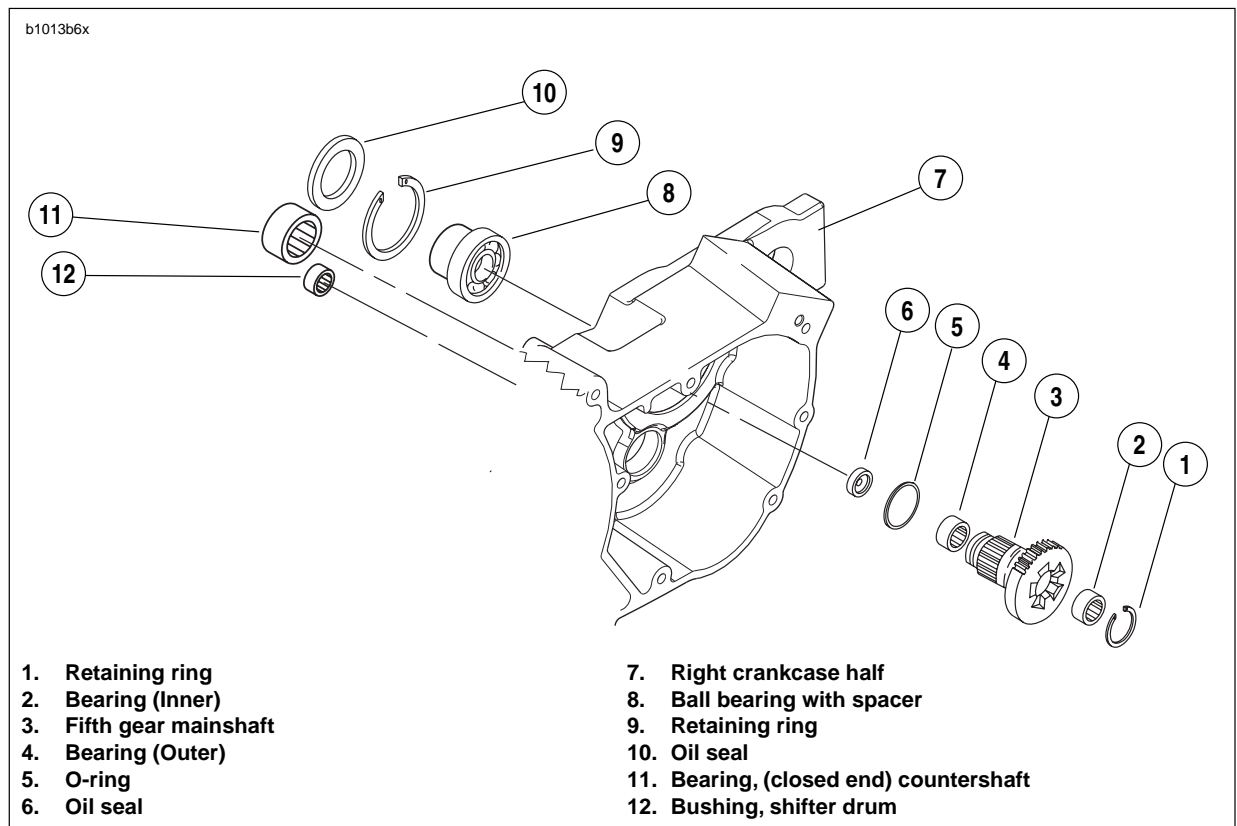

Figure 6-84. Transmission Assembly-Right Crankcase Half
2. See Figure 6-84. Install **new** o-ring (4) into groove in main drive gear (2). Lubricate o-ring with GENUINE HARLEY-DAVIDSON FORMULA+ TRANSMISSION AND PRIMARY CHAINCASE LUBRICANT.
See Figure 6-84. Make sure to install **new** o-ring (6) onto main drive gear before installing main drive gear into crankcase.
4. At outside of case, place INSTALLER CUP (Part No. HD-35316-12) (4), NICE BEARING (5), FLAT WASHER (6) and NUT (7) over end of bolt. Tighten nut until main drive gear bottoms against main drive gear bearing.
6. See Figure 6-84. Tap in **new** oil seal (6) at threaded end of main drive gear to a depth of 0.060-0.030 in. (1.524-0.762 mm).
1. See Figure 6-84. From inside transmission case use a suitable BEARING DRIVER/PULLER to remove countershaft bearing (11) from crankcase bore.
2. See Figure 6-84. From the outside of the case place the closed end needle bearing (11) open end first next to the bearing bore. Hold the driver squarely against the closed end of the bearing and tap the bearing into place. The bearing is properly positioned when it is driven flush or 0.030 in. (0.762 mm) below the outside surface of the case.
1. See Figure 6-84. Using SNAP-ON BUSHING DRIVER SET (Part No. A-157C) with a 1/2 inch adapter (Part No. A157-8), install **new** bushing (12).